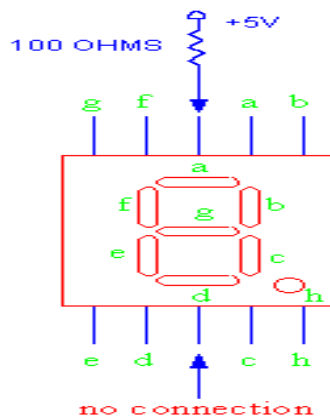

Figure 2: 7-Segment Display
Figure 2 shows a schematic for a typical common anode seven segment display. Giving a logic low (0) for any of the shown pins will light the corresponding LED. Giving it logic high (10) will keep it off. Your 7-segment display pins should be connected to an output port on the 8255. For example, connecting pins **a** through **h** to PORTC (with hgfedcba being PC7 PC6 PC5 PC4 PC3 PC2 PC1 PC0), giving PORTC a value of A4 in hex shows number 2.